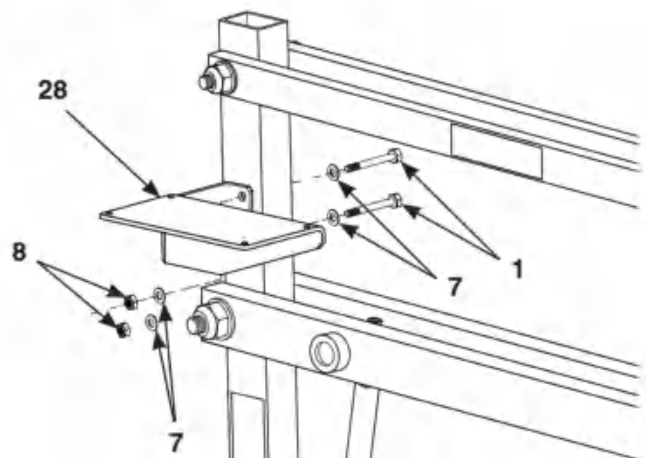

Figure 11
17. Mount the pump bracket (28) to either side of the mast using 2-3/4" cap screws (1), two 3/8" lock washers (7) and two 3/8" nuts (8). **See Figure 11.**